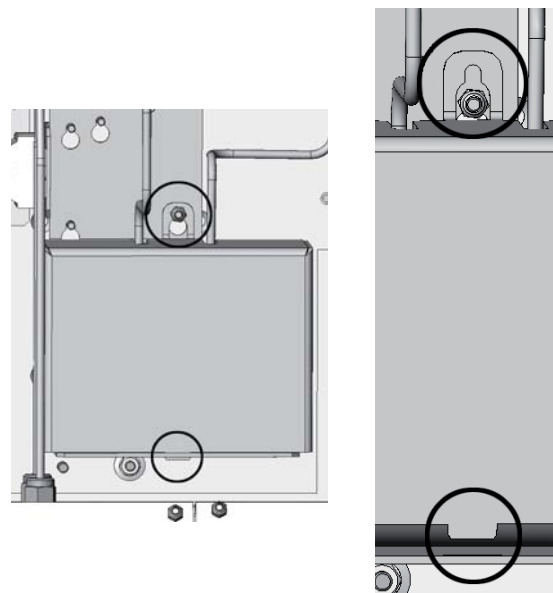
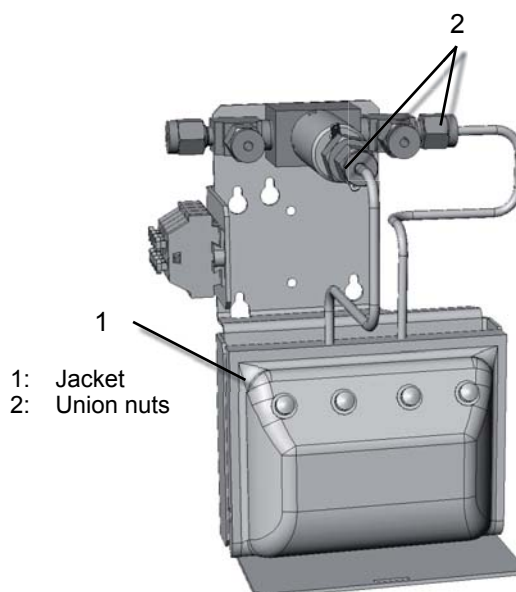

Fig. 4-5: Converter assembly details
Fig. 4-6: Heated jacket
The converter is installed behind a metallic cover, which is fixed with a screw nut and a key (Fig. 4-5). Loosen the screw nut a few turns (don't remove it) and push the cover upwards until the key is free to remove the cover (Fig. 4-6).
Now you have access to the inner thermostated jacket (Fig. 4-6).
3. Loosen the union nuts of the fittings that connect the gas lines from the converter to the solenoid valve (Fig. 4-6).